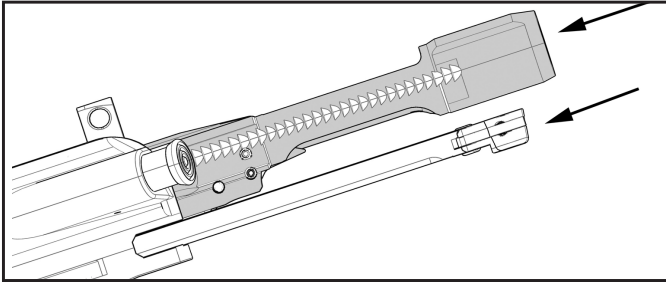

Fig. 63 – Installing the bolt assembly into the upper receiver
- i. With the upper receiver and charging handle upside down, install the bolt assembly onto the bottom of the charging handle ensuring that the bolt carrier's anvil and the top of the cam pin are centered in the bottom cavity of the charging handle (Fig.63).